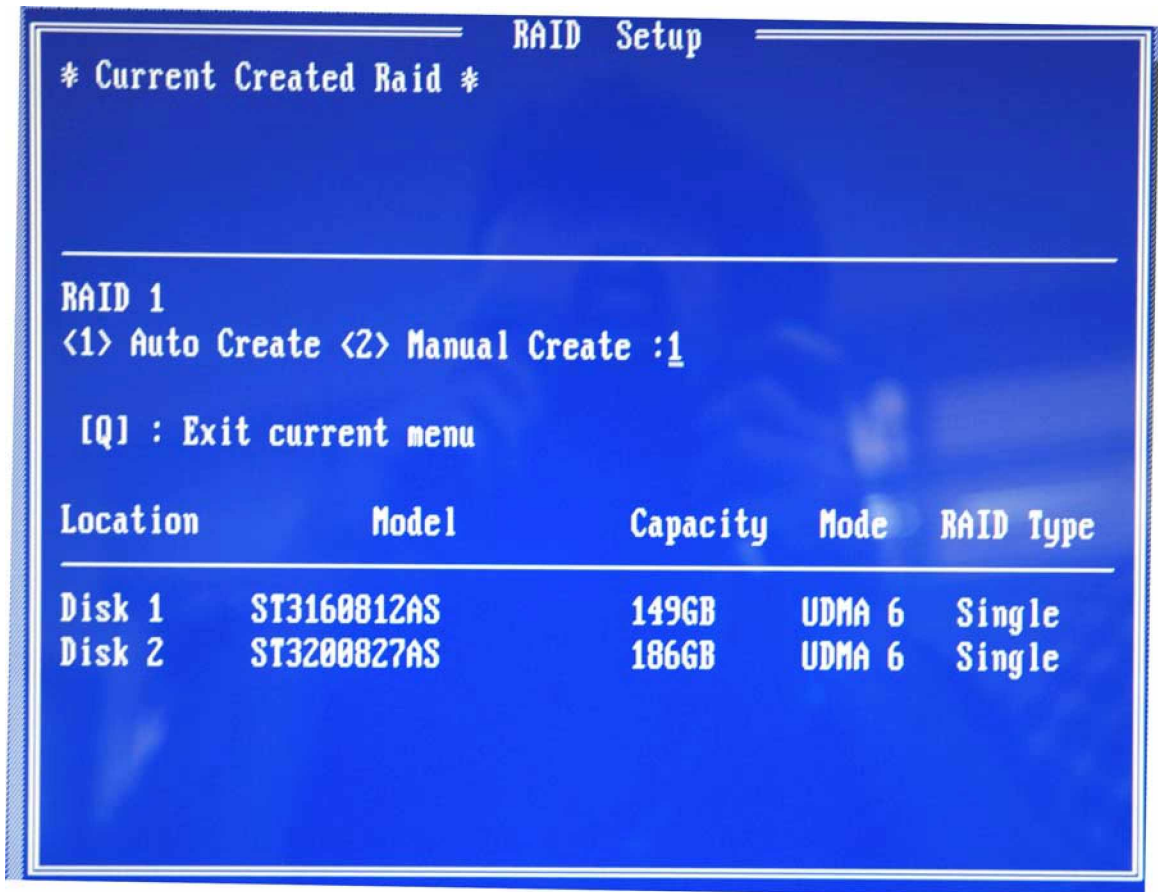

Figure E-7: Select "Auto"
Step 6: The system then prompts the user to “**Auto Create**” or “**Manual Create**” (see **Figure E-7**).